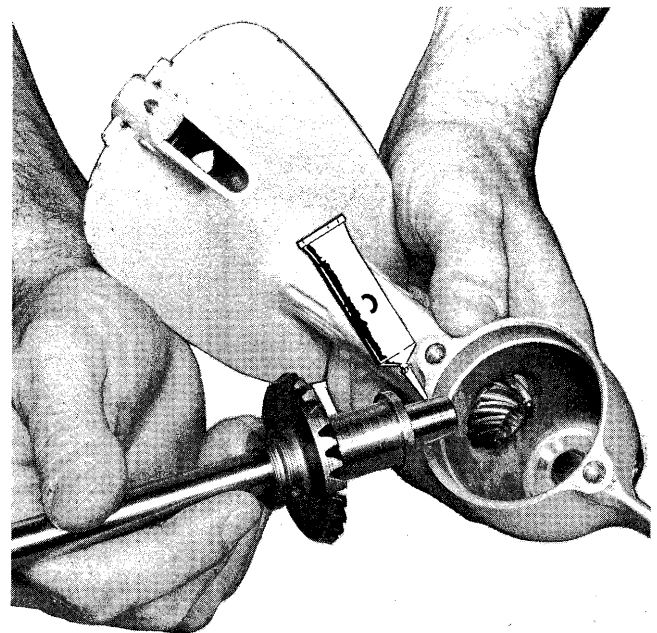

Figure 3
2. Invert gearcase once pinion is installed, and after coating front end of propeller shaft with OMC Type “C” lubricant; install propeller shaft (Figure 3). Turn shaft slightly during installation to engage gear teeth.